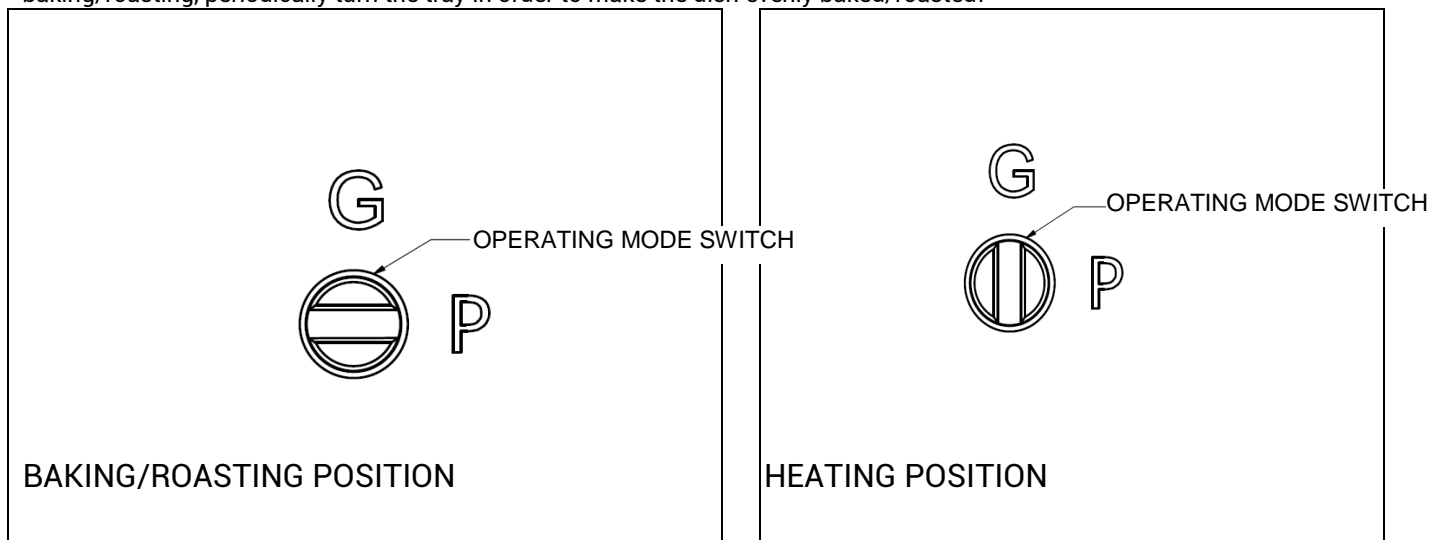

Figure 19
- turn the operating mode switch 90° to the baking/roasting position using a special key, as in Figure 19,